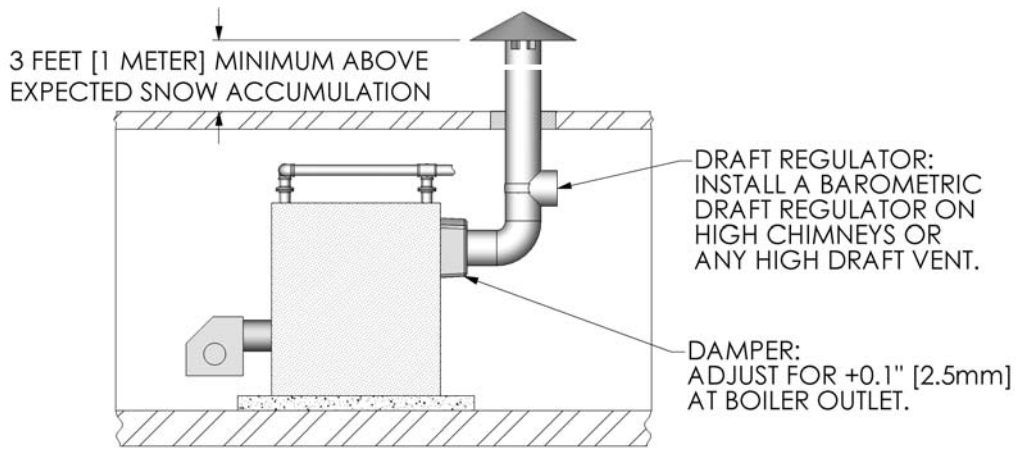

Figure 1.3: Typical Vent Termination
- i. Vent terminations must be extended to three feet above expected snow accumulation. See Figure 1.3.